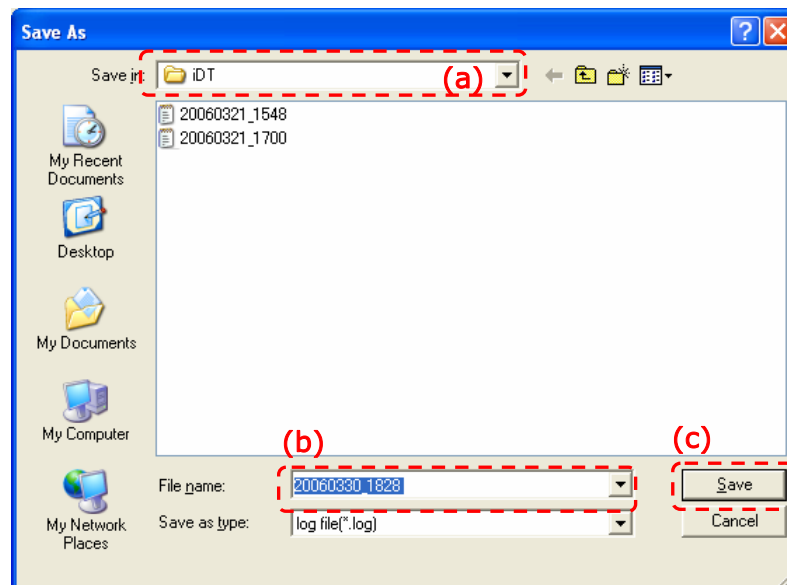

Fig. 7-2-1
To change folders, click on the [**Save in**] drop down menu (Fig. 7-2-1 (a)) and select the folder where you wish to store your file.
- (3) The filename (Fig. 7-2-1 (b)) is automatically displayed in the following:
- (4) Press the [**Save**] button (Fig. 7-2-1 (c)), the log file will be saved.